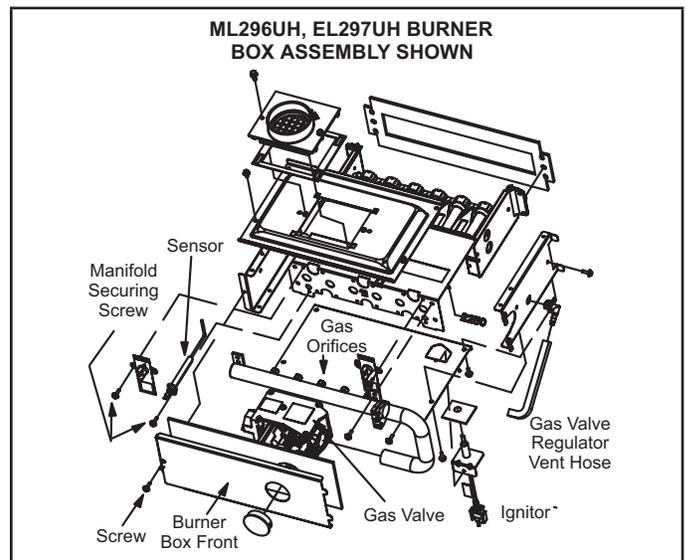
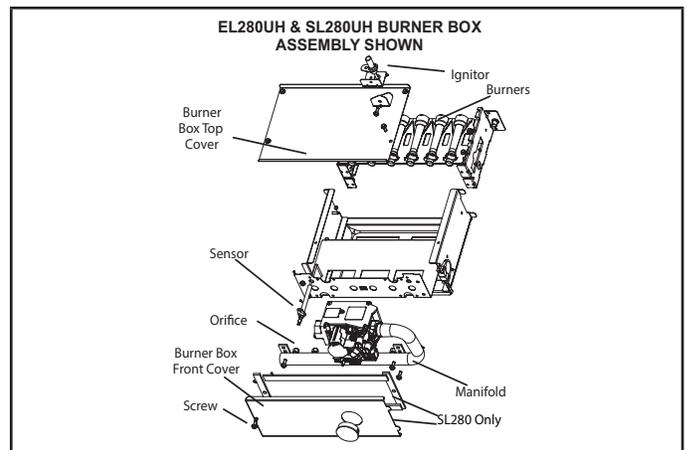

FIGURE 2
FIGURE 3
- 4 - Remove the screw that secures the burner box front cover and remove front cover (if equipped). See FIGURE 2 and FIGURE 3.